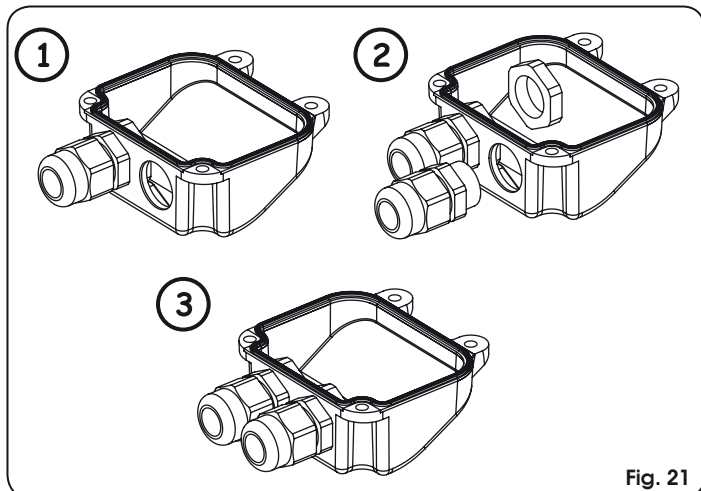

Fig. 21
1. Open the second pre-drilled hole in the cover, Fig. 21.
2. Fit the supplied cable gland, Fig. 21